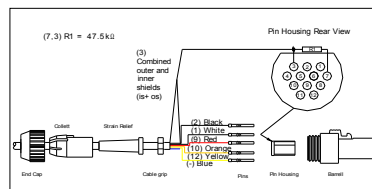

Fig 2.2
9. Solder each leg of the resistor into the rear of 2 separate pins and push pins firmly into correct locations as shown in fig 2.2.
10. Solder all 5 wires to the rear of 5 pins and push/pull firmly into correct locations shown in fig 2.2.